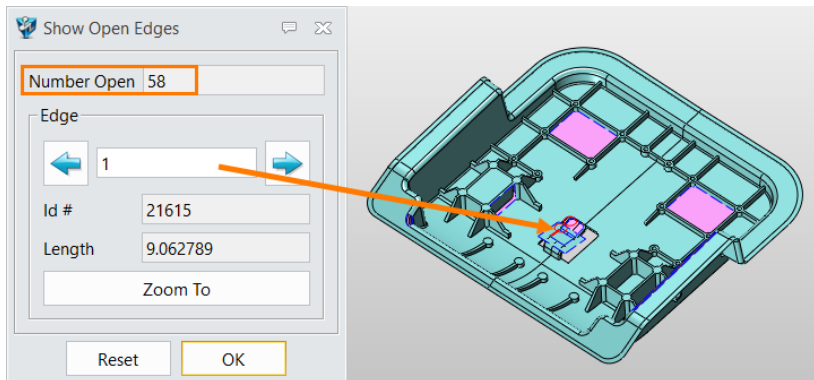

Figure 5 Show Open Edges
STEP 05 Use **Show Open Edges** in **Heal** tab, then you can find **open edge number** is shown as Figure 5.